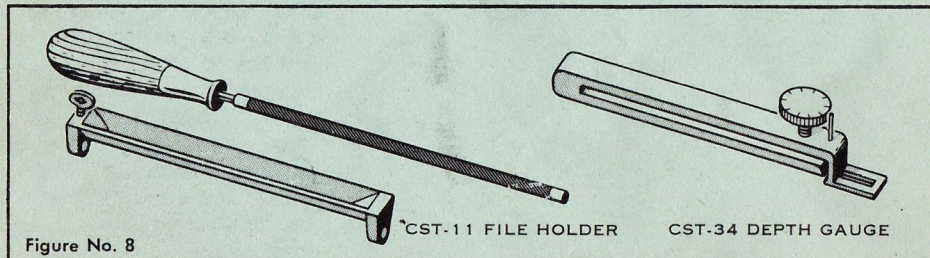

Figure No. 8
- a. A 1/4" round (not tapered) file. Clinton dealers stock the file handle, holder with guide marks and correct file. Ask for CST-11. (See Figure No. 8)
- c. Depth gauge (CST-34) with adjustable dial for determining clearance. (See Figure No. 8)